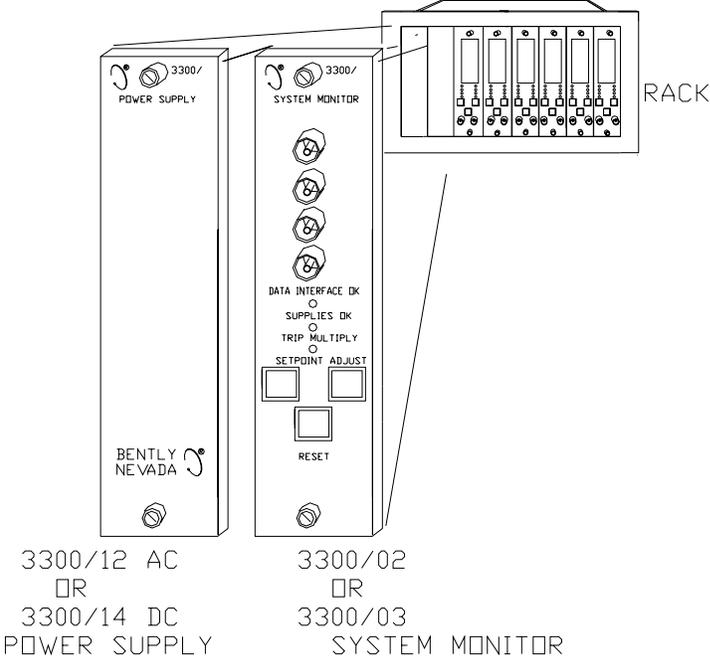

Figure 3
- Consists of a 3300/03-01, -02, or -03 System Monitor, a 3300/12 or /14 Power Supply, a new backplane and one of the PIMs shown in **Figure 3**.